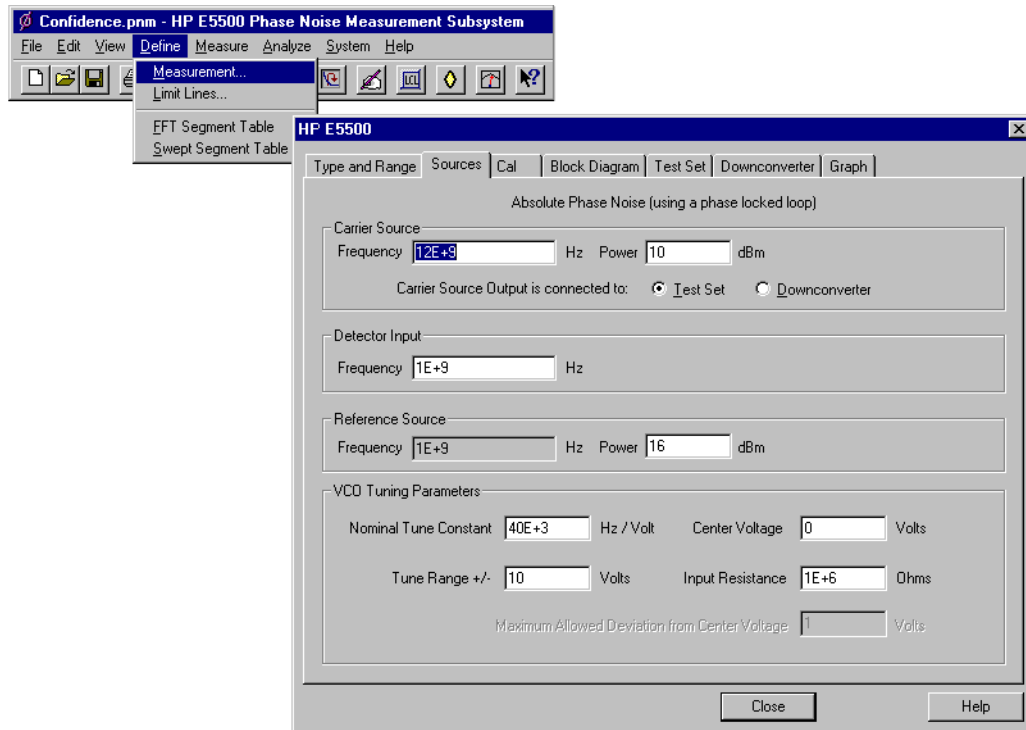

Figure 3-4 Navigating to the Define Measurement Window.
- 5 To view the parameter data in the software, navigate to the Define Measurement window use Figure 3-4 as a navigation guide. The parameter data is entered using the tabbed windows. Select various tabs to see the type of information entered behind each tab.